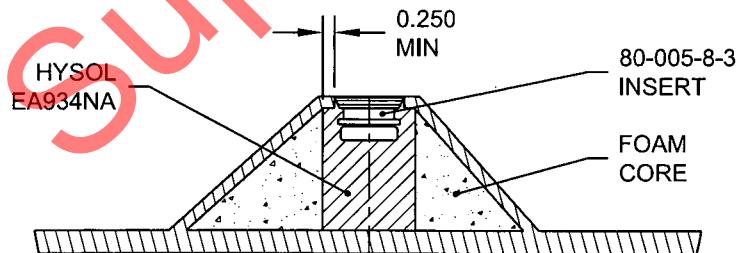

FIGURE 1
1. LOCATE AND MARK THE CENTER(S) OF THE INSERT(S) ACCORDING TO THE COMPONENT LOCATION DRAWING (LOCATION AND INSTALLATION OR ASSEMBLY).
2. MAKE A HOLE THE SAME SIZE DIAMETER AS THE INSERT SHAFT DIAMETER. DRILL INTO THE MATERIAL WITHOUT SCORING THE FAR SIDE OF THE SANDWICH MATERIAL. ROUTE THE MATERIAL UNDER THE HOLE AND CLEAN OUT FOAM CORE BETWEEN THE TOP AND BOTTOM LAYERS OF THE SANDWICH MATERIAL. ENLARGE DIAMETER OF FOAM CORE TO AT LEAST 0.250" ALL AROUND HOLE AS SHOWN IN FIGURE 1 BELOW (SUGGESTION: A HEX-HEAD WRENCH CHUCKED INTO A SLOW SPEED DRILL MAKES THIS STEP EASY, QUICK AND UNIFORM).